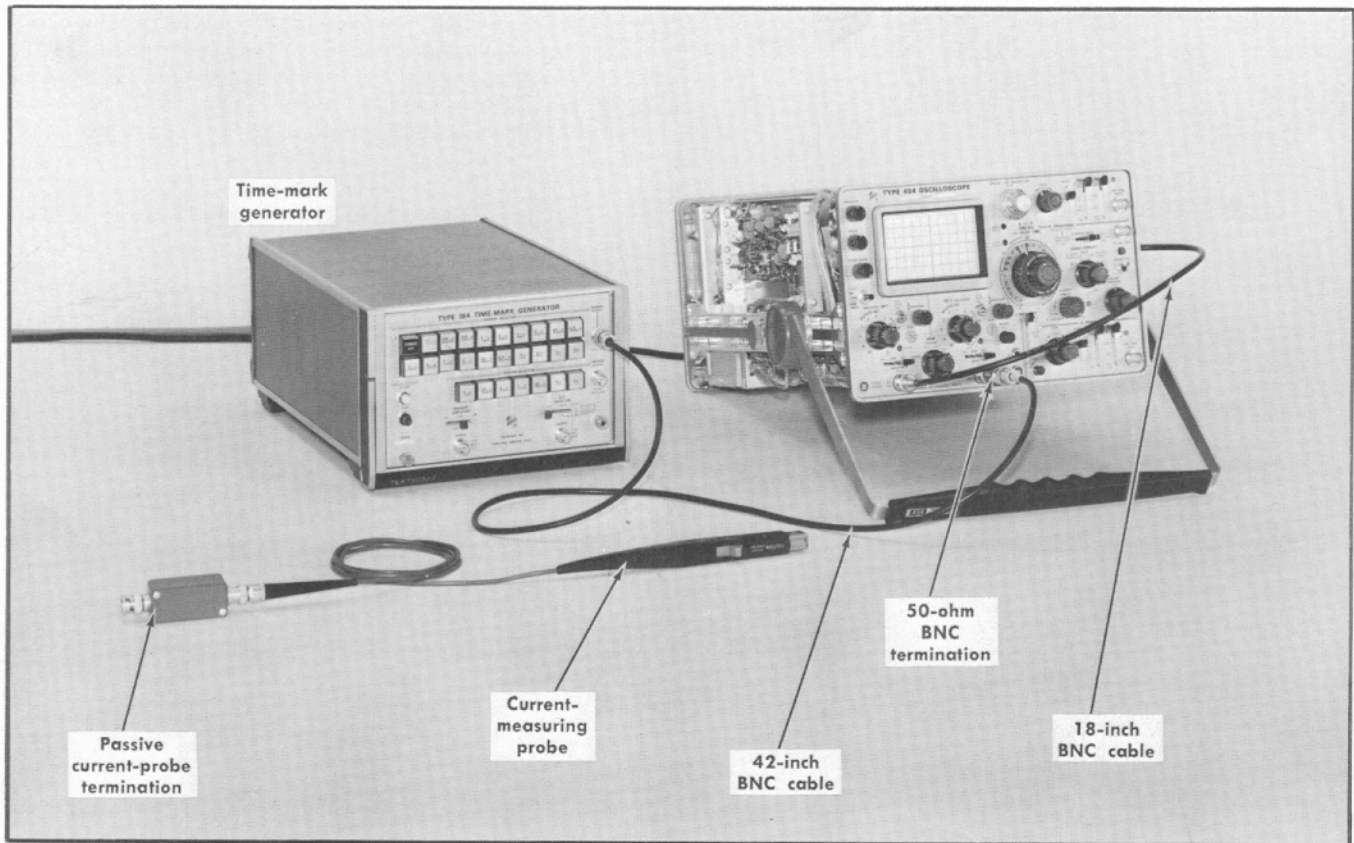

Fig. 6-62. Initial test equipment setup for steps 77 through 80.
- Test equipment setup is shown in Fig. 6-62.